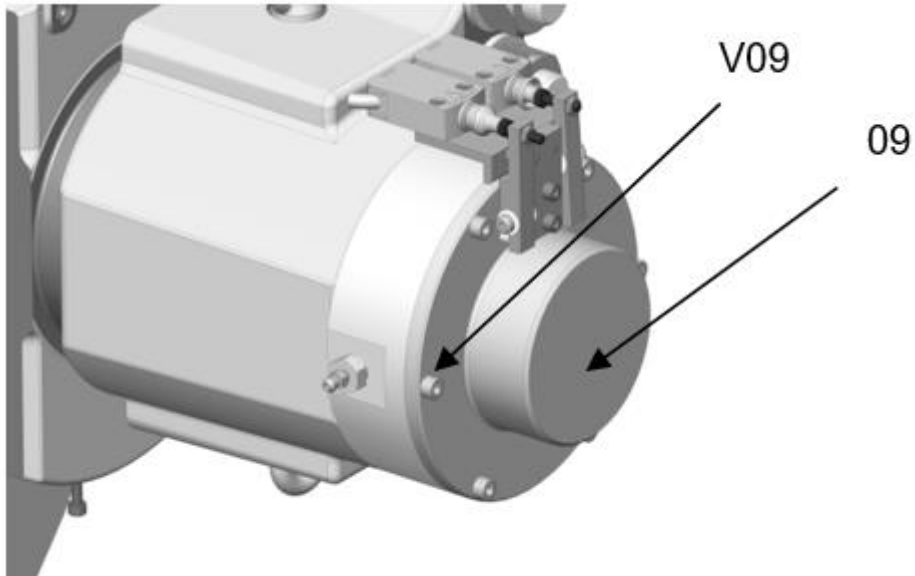

Fig. 5.2
3. Remove lid **09** using its 6 screws **V09** with a A/F wrench Fig. 5.2.